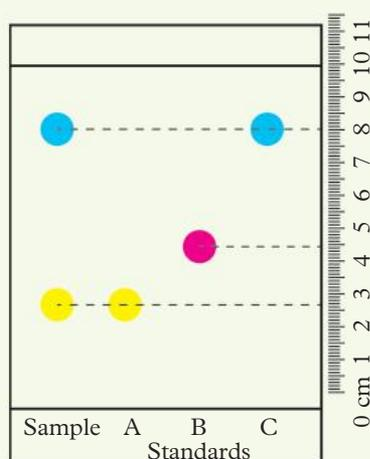

FIGURE 11 A chromatogram from analysing a food dye against three standard dyes
- 1 Using Figure 11, describe the steps involved in calculating retardation factor.